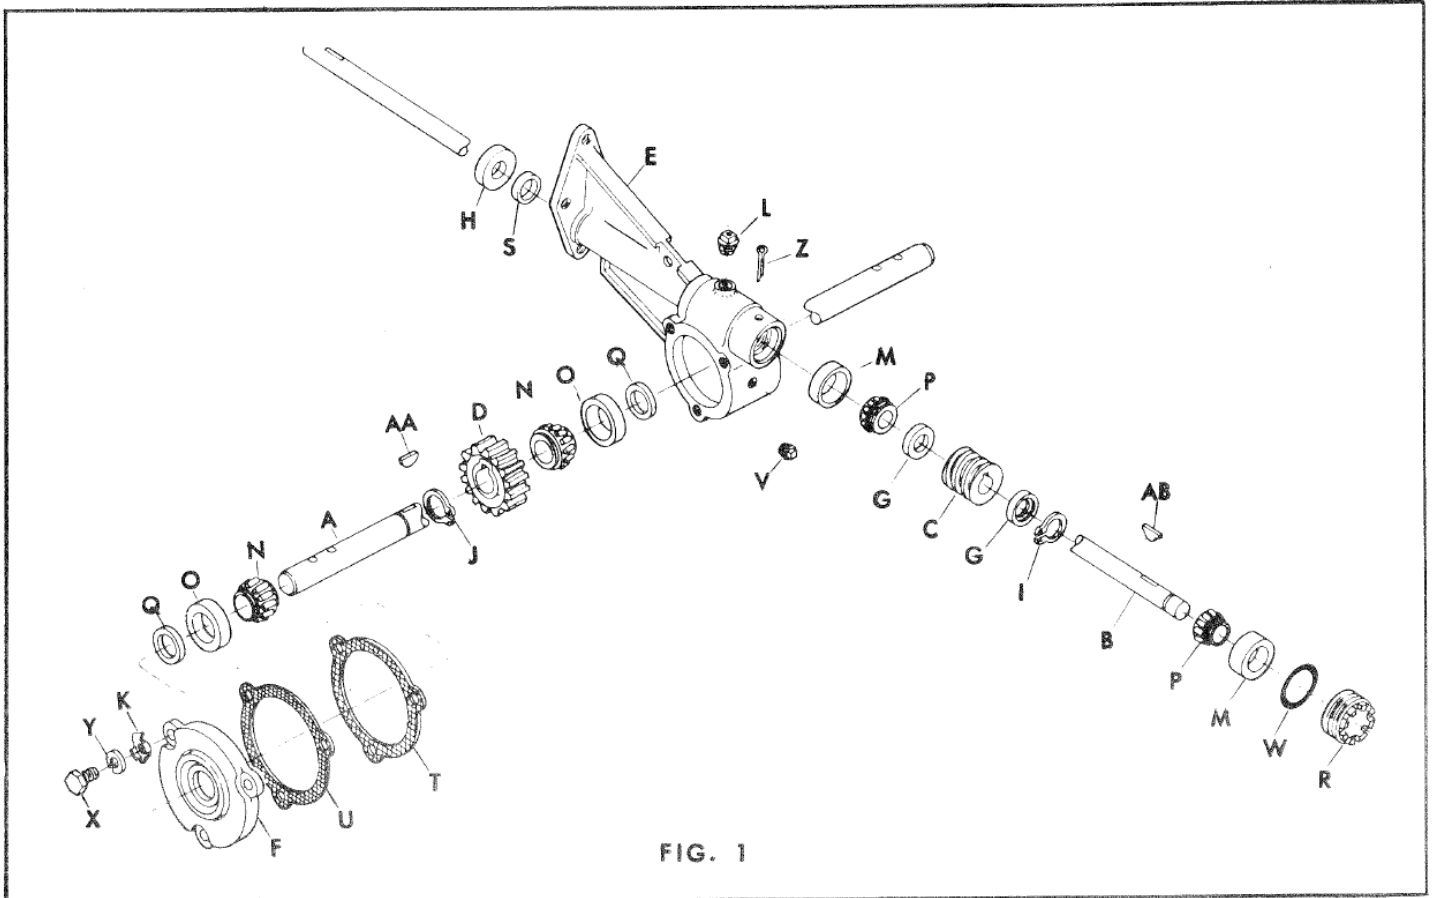

FIG. 1
19. Slide the tine shaft assembly into the housing, and carefully through the housing seal. The retaining ring "J" must face the cover per figure 1.
41. Slide the tine shaft assembly into the housing "E" and carefully through the housing seal. The retaining ring "J" must face the cover per figure 1.